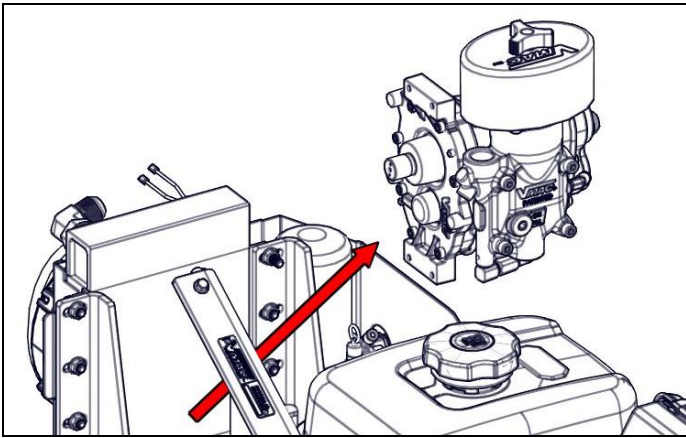

Figure 63 - Compressor removal
9) Lift the compressor back and up to remove it (Figure 63).